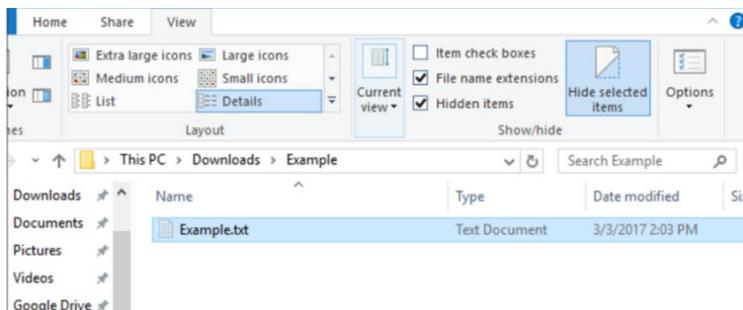

Figure 3. Location of the color compensation file.
4. Program Data is a hidden folder (follow 1 below if not done already). Drive C: will be used as default. If changed during installation, “ProgramData” must be searched in set location. (Optional) In Windows File Explorer: “View” Tab -> check “Hidden Items” (Figure 3).